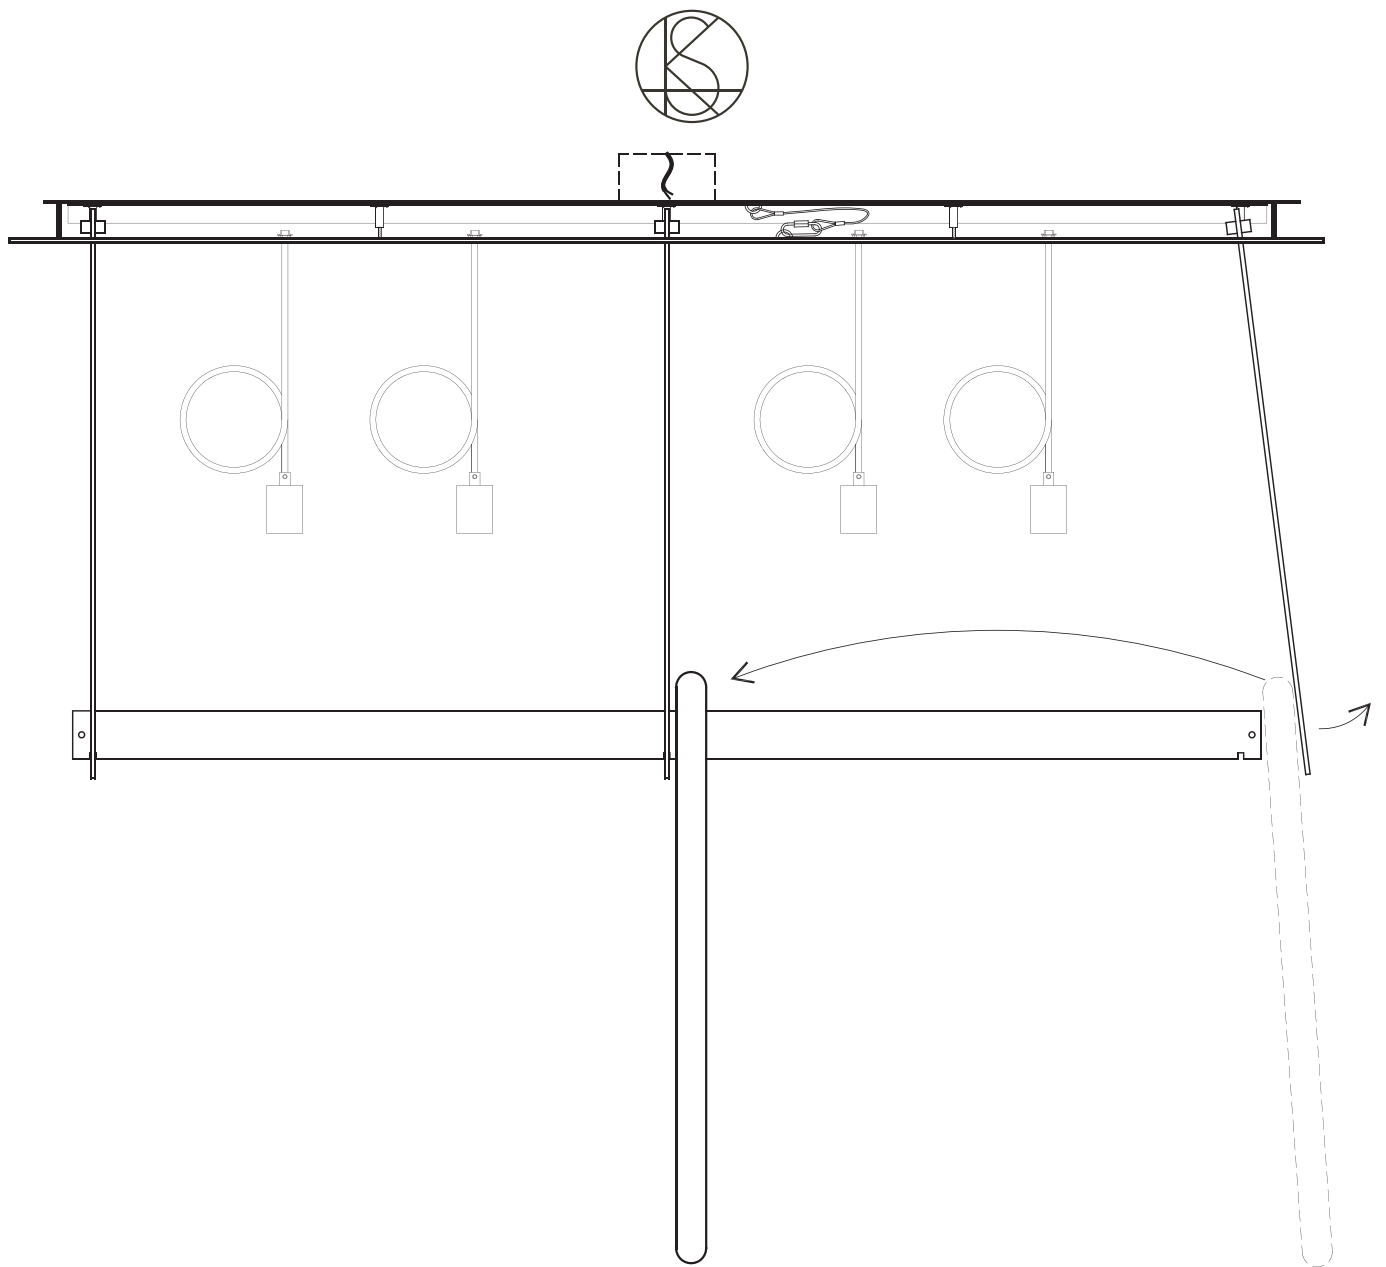

Figure 7. Install Glass Lasso Elements
- 13 To install the glass loop elements, carefully lift and slide the vertical support clear of the horizontal support bar at one end. Slide 1-3 lassos onto the horizontal support bar, carefully sliding them all the way to the center vertical support (Figure 7). Mix the different sizes and orientations of lassos randomly during installation. Lift the horizontal support bar and slide it back through the vertical support. Now repeat on the opposite side, installing 1-3 lassos at alternate sides back and forth until all lassos are hanging on the horizontal support bar and an equal number of lassos are on either side of the center vertical support. Wearing nitrile or cotton gloves while handling the lassos and the fixture will keep the glass and metal finish clean and smudge-free.